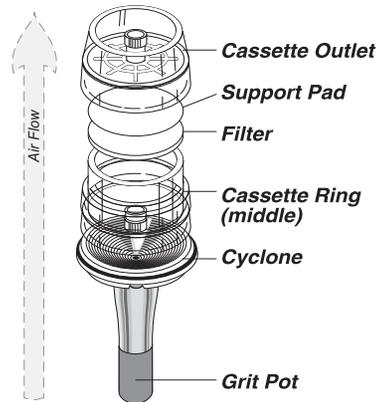

Figure 1.
2. Select a filter and support pad as specified in the sampling method. Insert cassette ring (middle) section into cassette outlet. See Figure 1.